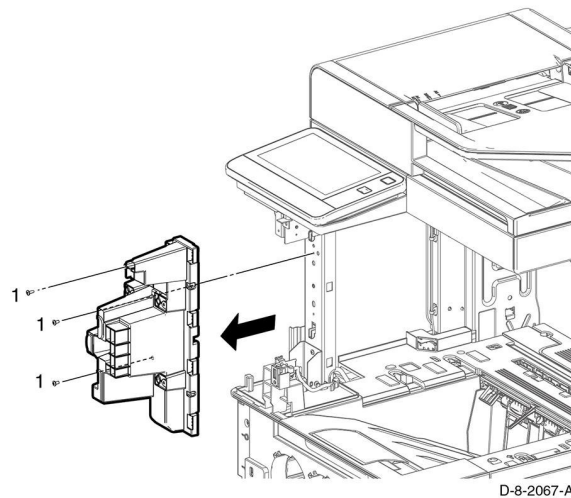

Figure 1 Finisher frame removal
14. Remove three screws (1), then remove the finisher frame, Figure 1.